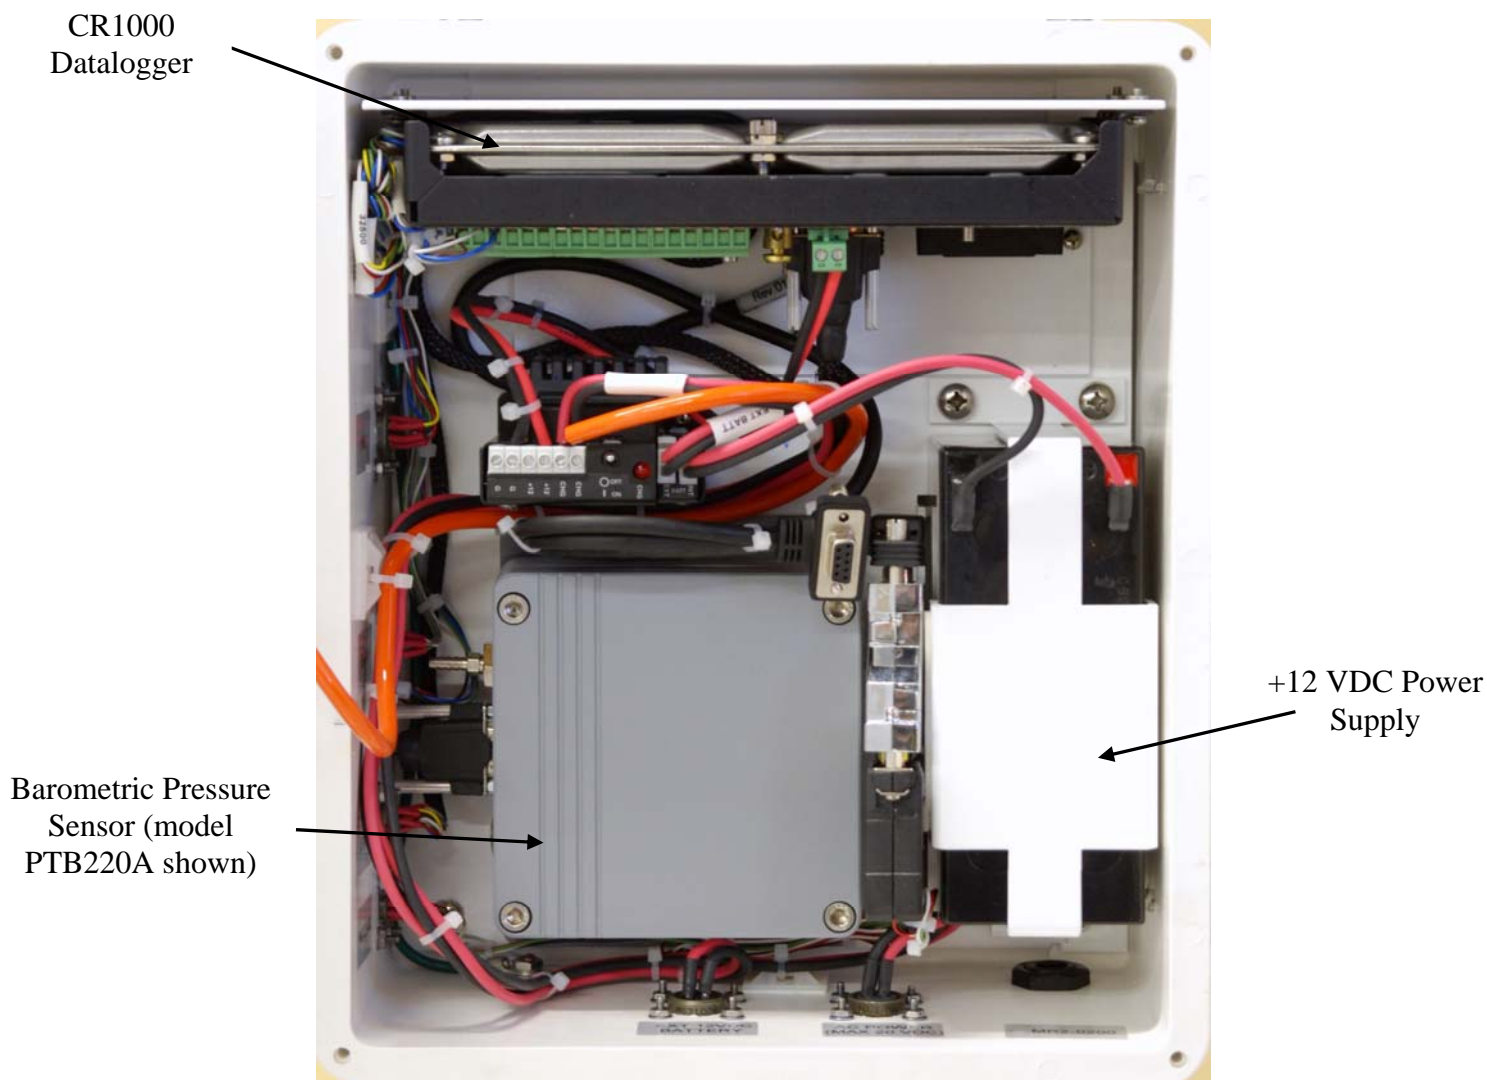

Figure 3. MetRanger II Enclosure
- Depress the spring loaded buttons (see Figure 3) and slowly rotate the compass section 360° twice while keeping the compass level during each revolution. Take about 1 minute for each revolution.